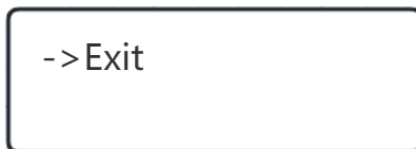

Figure 3.5-4 Exit the Settings Submenu
- ④ Press the [\wedge][V] keys to move the setting cursor to **【Exit】**, as shown in Figure 3.5-4. Press and hold both keys to exit the setting submenu.